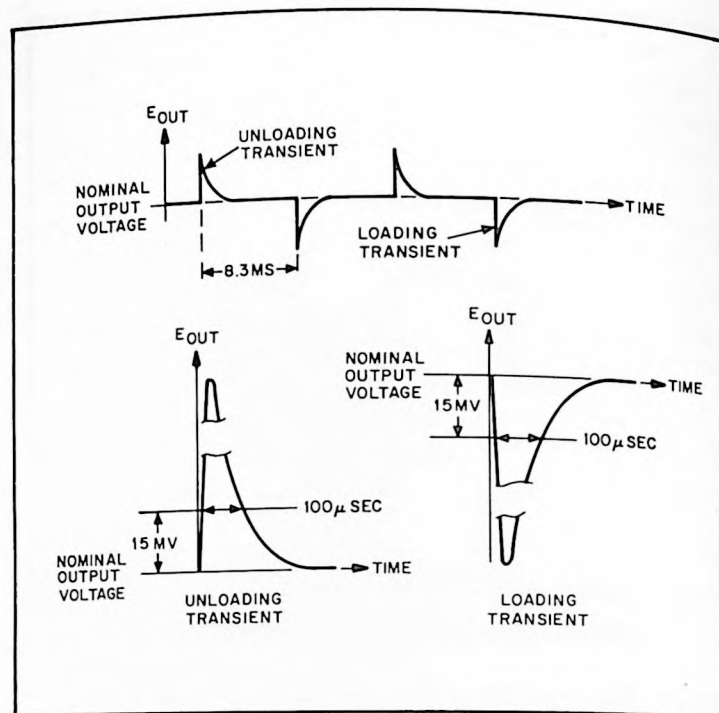

Figure 5-5. Load Transient Recovery Waveforms
n. Starting from the major graticule division representing time zero, count to the right $100\mu\text{sec}$ and vertically 15mV . Recovery should be within these tolerances as illustrated in Figure 5-5.